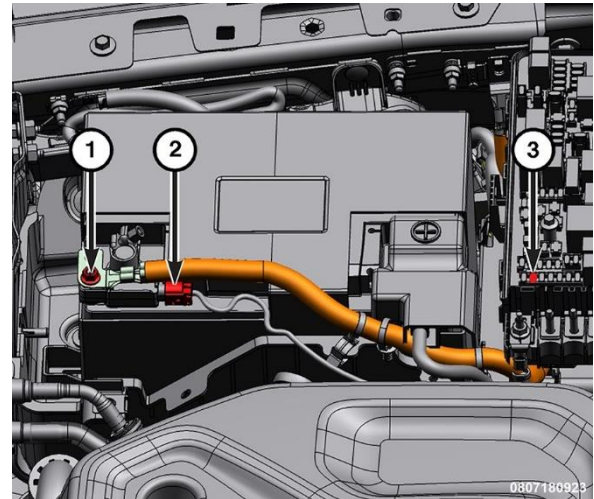

Figure 14 – Negative Battery Cable, Fuse F09 and IBS Connector
17. Remove the cover, connect the negative battery cable to the IBS and tighten the fastener (1) to 10N·m (7 ft. lbs.) (Figure 14).
18. Install the F09 (5 amp) IDCM fuse (3) in the Power Distribution Center (PDC) (Figure 14).
19. Connect the IBS harness connector (2) (Figure 14).